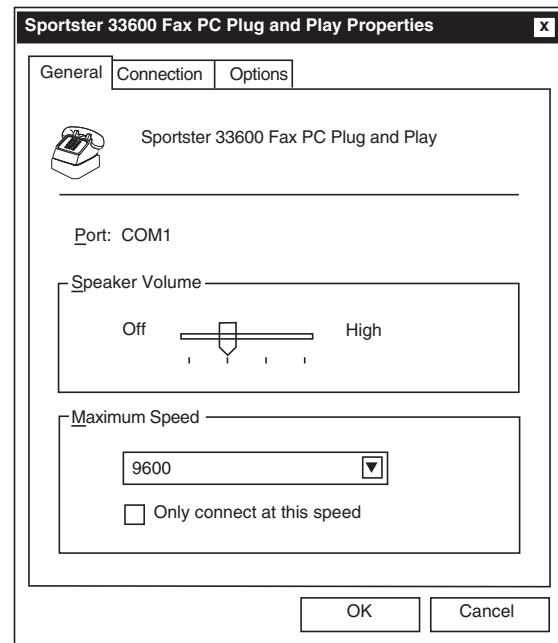

Figure 9-2 Modem Plug and Play Properties Dialog Screen
- d. Select **Configure Line...**, TapTalk displays the **Modem Plug and Play Properties** dialog screen (Figure 9-2).